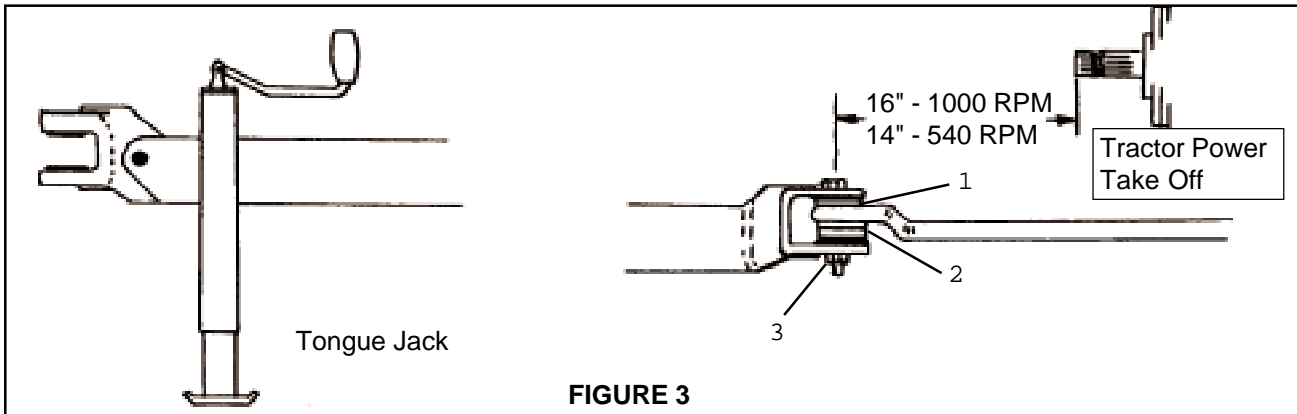

FIGURE 3
Adjust the tractor drawbar to proper length to provide dimensions shown in **figure 3** for proper Driveline attachment at 540 or 1000 RPM PTO speed as indicated on the Mower.
Place two 1" washers (1) under top lip of a WELDED Clevis. Add enough 1" spacer washers (2) between bottom of drawbar and bottom lip of Clevis to fill the open space. Install a 1" grade 5 or 8 bolt. Install a locknut (3) onto the bolt beneath the Clevis and tighten the 1" locknut & bolt securely. See **Figure 3**.